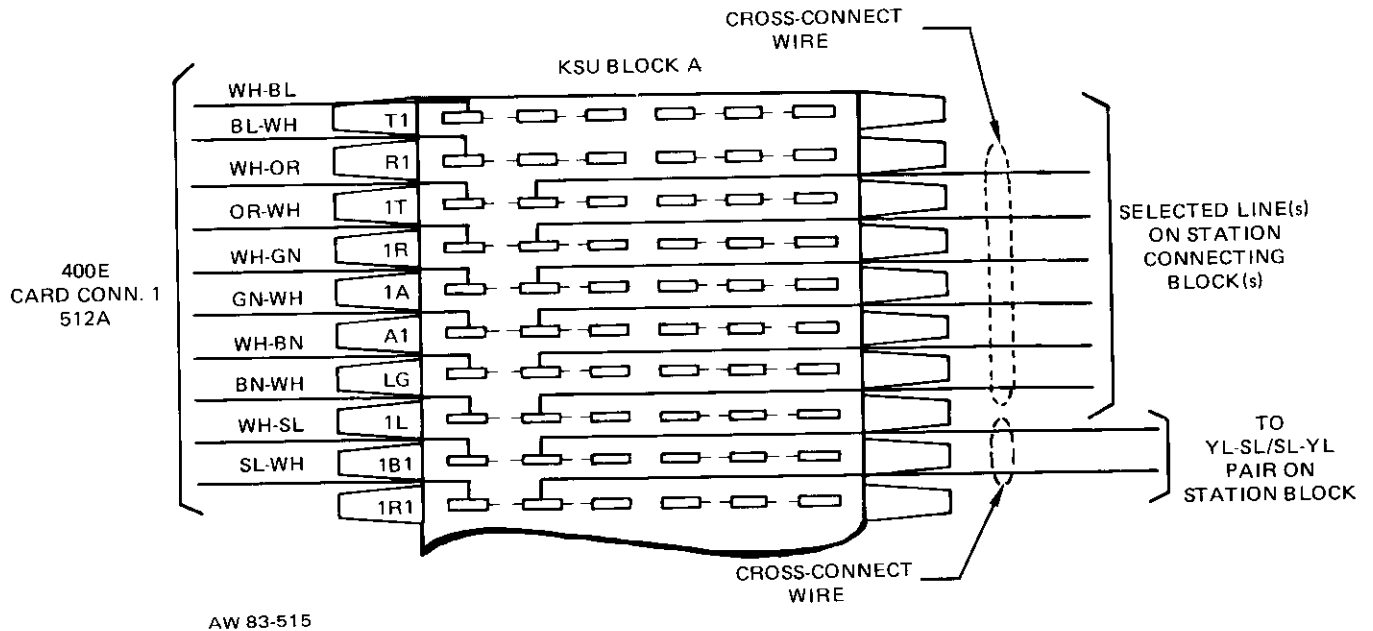

Figure 8: Connecting Details, Line KTU to Multibutton Station
4.15 Cross-connect the T, R, A, A1, LG, and L terminals to the corresponding terminals for the selected line key on the assigned station connecting block. If required, multiple the connections to the T, R, A, A1, LG, and L terminals of the line pickup key(s) for any other assigned station(s). An example of these connections is shown in Figure 8.
4.17 Cross-connect the B1 terminal on the KSU connecting block to the YL-SL lead on the station block of a telephone that is to ring when the line is called. Connect the R1 terminal to the SL-YL lead of the station block. Multiple the connections to the station block of each telephone that is to ring. Refer to Figure 8.